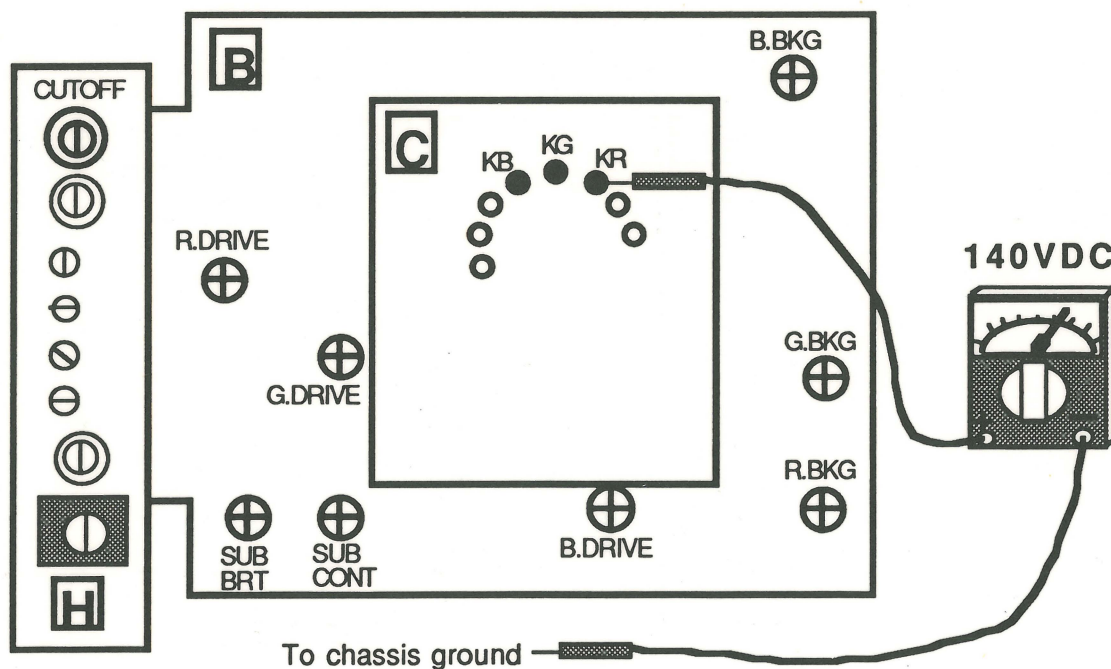

FIGURE 1
5. Preset all 8 controls on the B board to midrange (the B board controls are visible in Figure 1).
6. Set up a voltmeter as shown in Figure 1.